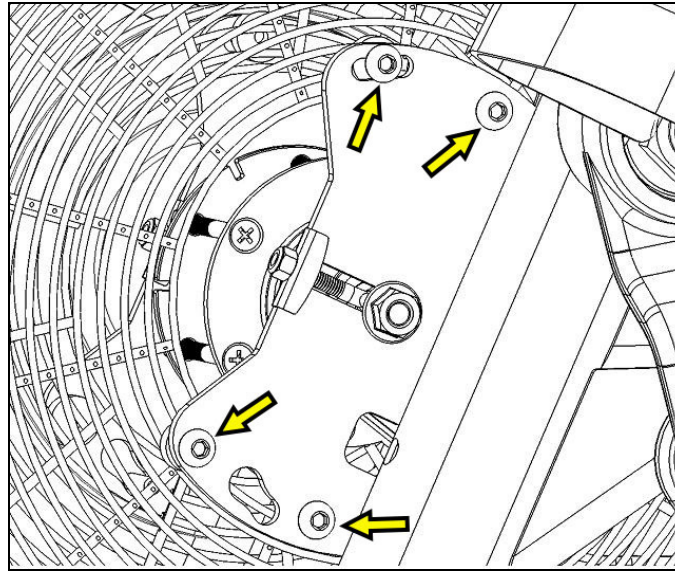

Fig. 5
- Using a Phillips head screw driver, remove (4) screws that are attached from frame to the fan cage (Fig. 5).